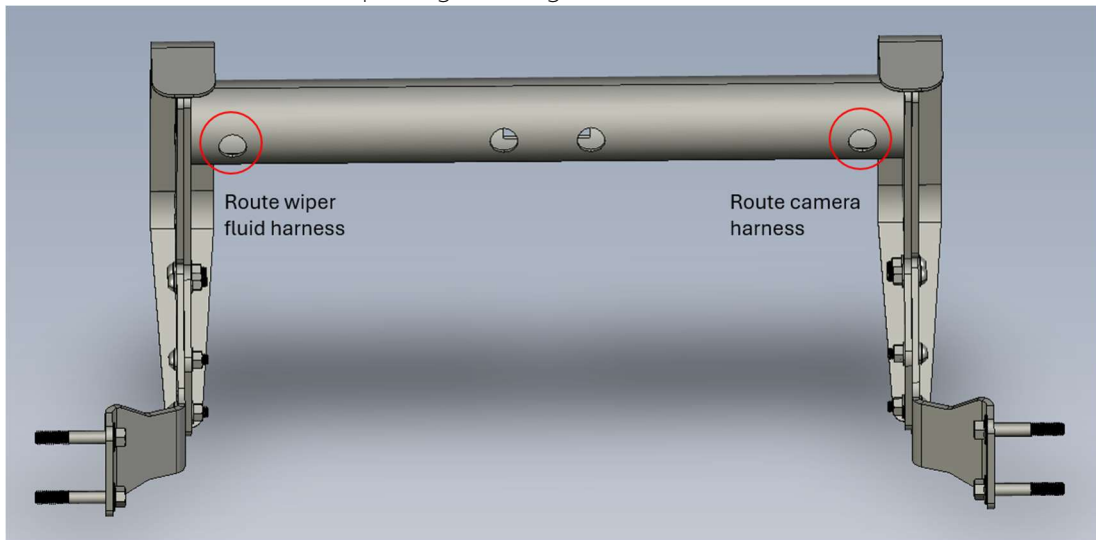

Figure 22
7. Route each harness through backside of Lower Weldment, and feed connections through front Lower Weldment camera bezel opening. See Fig. 22